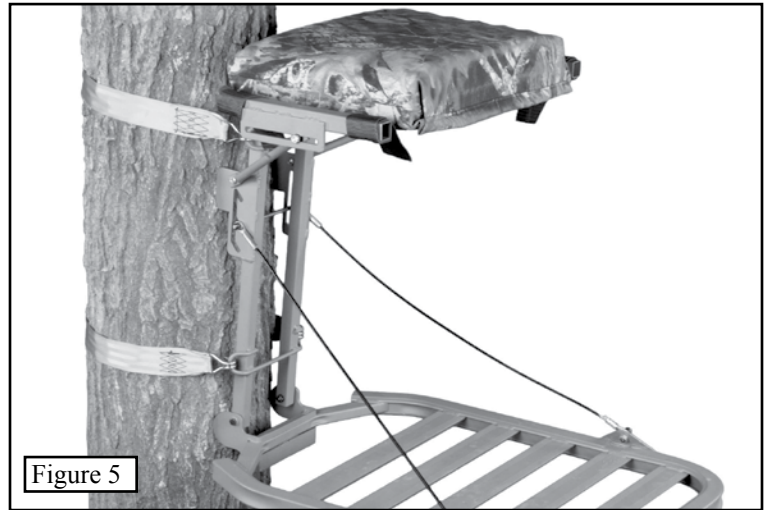

Figure 5
Step 5. Attach the other ratchet strap to the upper welded bracket and securely ratchet it tight then go back and ratchet the bottom strap tight. Both straps should level on the tree and parallel to each other as shown in **Figure 5**.